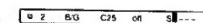

Fig. 23
- Select a letter or number with Δ or ∇ and press OK. The next element will be highlighted. Select other characters in the same way. If you want to leave an element blank, select - and press OK. (See Fig. 23)